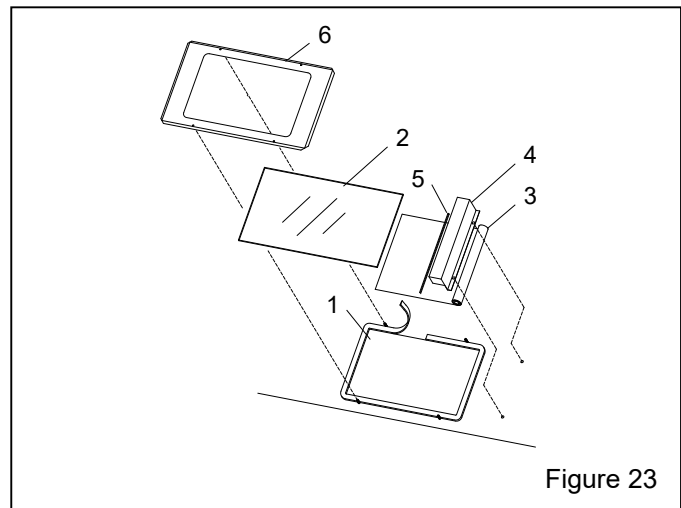

Figure 23
**11.3 View Window Assembly, Figure 23**